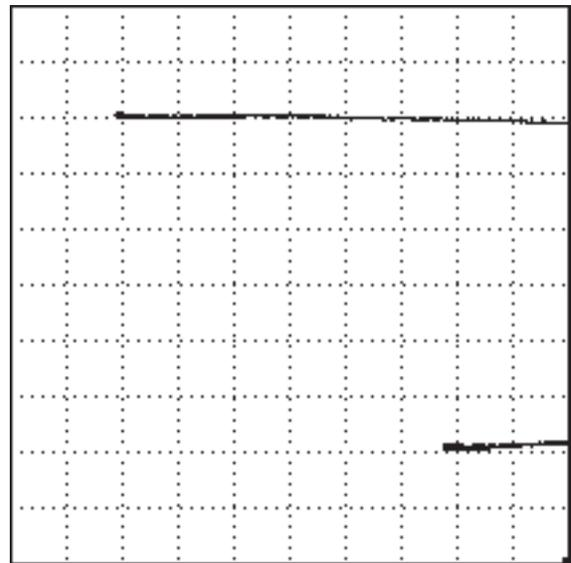

Figure 4-9.
21. Move probe back to Position 2 and adjust Gain or Angle, if necessary. (see **Figure 4-9**).